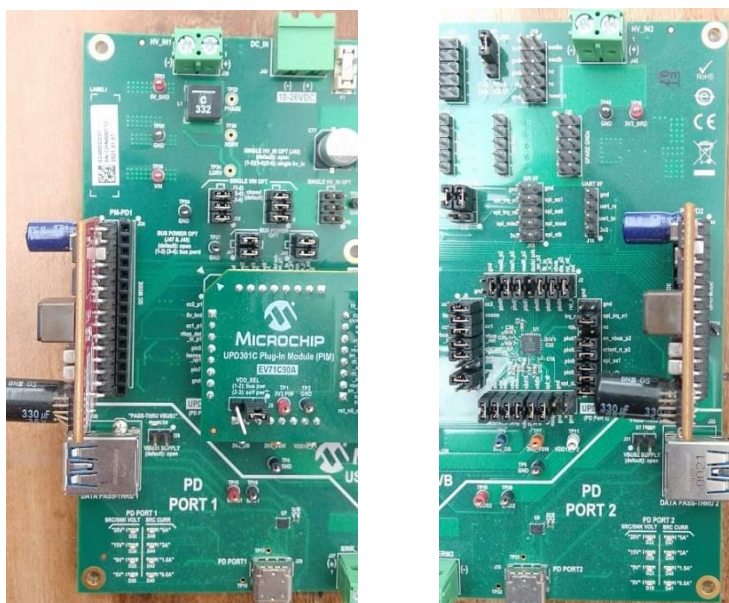

Figure 5.1 PM-PD Orientation
1. Connect PM-PD cards to J35 and J44 of the PSF-EVB in correct orientation as shown in Figure 5.1.